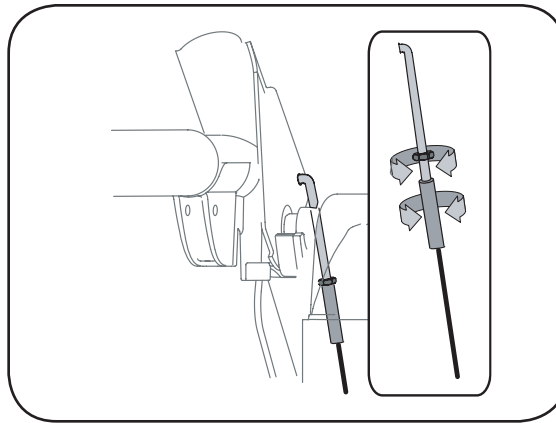

Figure 4-3
- Thread the ferrule without turning the cable onto the “Z” fitting until there is no slack in the cable. See Figure 4-3. Do not overtighten the cable. Hold the flats on the ferrule with pliers and tighten the jam nut against the ferrule.
- Retighten the hex jam nut. See Figure 4-3.